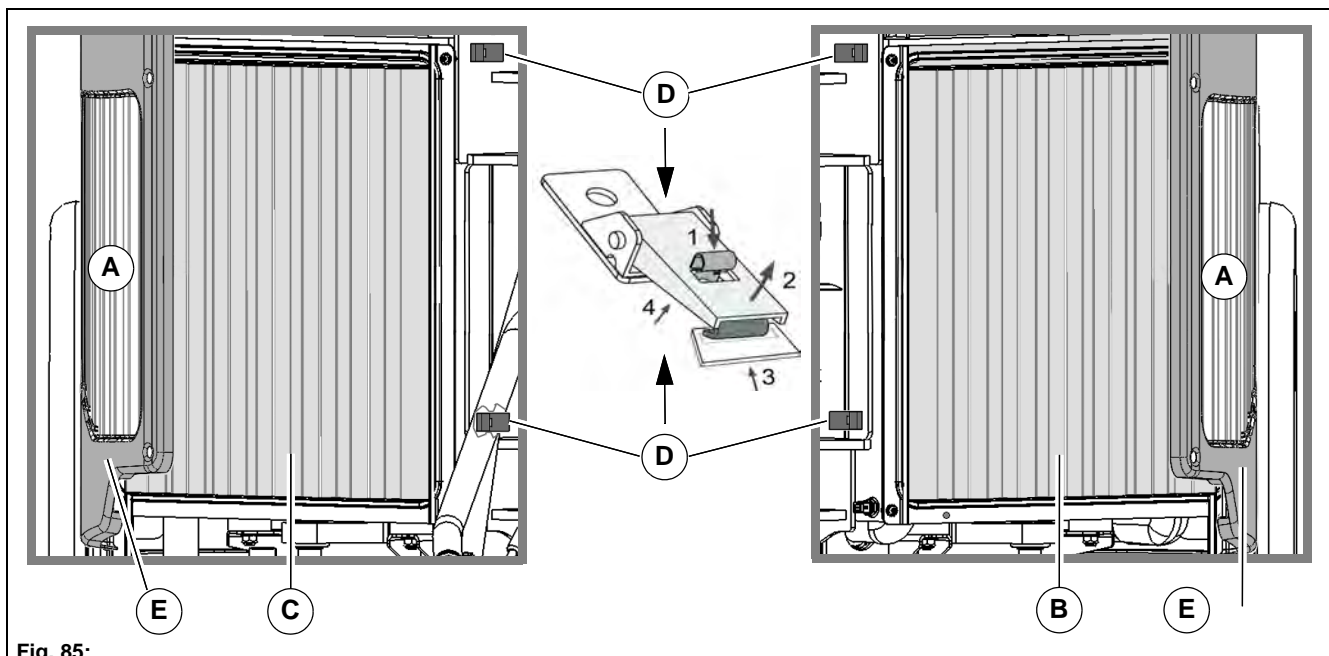

Fig. 85:
Check the grille screen **Fig. 85-A** and the cooling fins of the combination cooler located behind **Fig. 85-B** and of the hydraulic oil cooler **Fig. 85-C** daily and clean as required.
2. Open the lock **Fig. 85-D** (see sketch) and swing down the radiator cover **Fig. 85-E**.